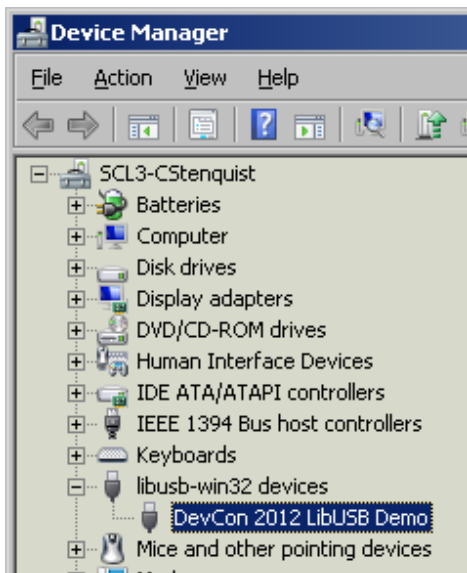

Figure 5. The RX LibUSB peripheral should show up in Device Manager, listed under the “libusb-win32 device” class.
9. Check that Windows has enumerated the RX properly. In Windows Device Manager you should see the RX LibUSB peripheral. See step 1 and Figure 5.